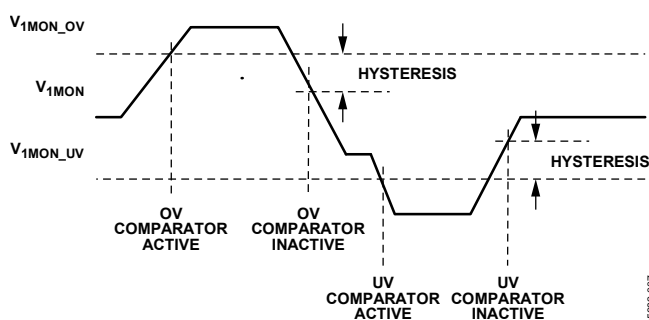

Figure 6. V_{1MON} Hysteresis
When the V_{1MON} input goes above the programmed overvoltage (OV) threshold, the comparator becomes active immediately, indicating that an OV condition has occurred. Due to hysteresis, the V_{1MON} input must be brought below the programmed OV threshold by 1.5% before the comparator becomes inactive, indicating that the OV condition has gone away (see Figure 6).